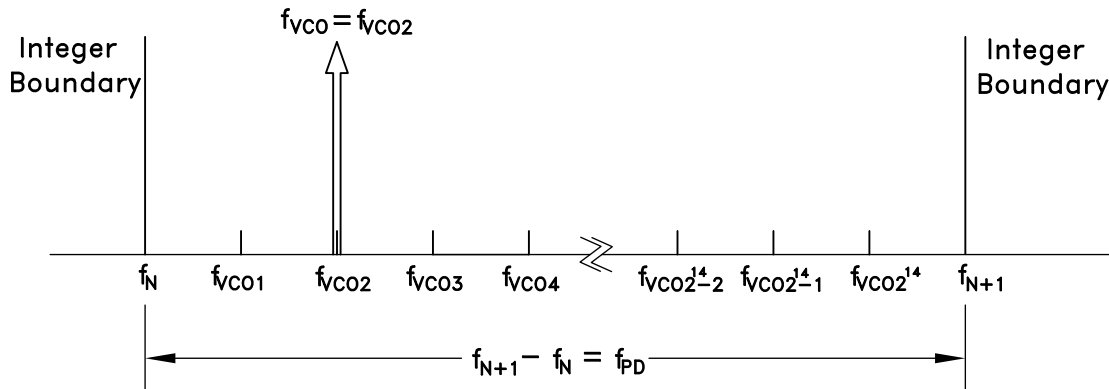

Figure 47. Exact Frequency Tuning
and f_{VCOk} are the channel step frequencies where $0 < k < 2^{24}-1$, As shown in Figure 47.
Some fractional PLLs are able to achieve this by adjusting (shortening) the length of the Phase Accumulator (the denominator or the modulus of the Delta-Sigma modulator) so that the Delta-Sigma modulator phase accumulator repeats at an exact period related to the interval frequency ($f_{VCOk} - f_{VCO(k-1)}$) in Figure 47. Consequently, the shortened accumulator results in more frequent repeating patterns and as a result often leads to spurious emissions at multiples of the repeating pattern period, or at harmonic frequencies of $f_{VCOk} - f_{VCO(k-1)}$. For example, in some applications, these intervals might represent the spacing between radio channels, and the spurious would occur at multiples of the channel spacing.
If it is desirable to have multiple, equally spaced, exact frequency channels that fall within the same interval (ie. $f_N \leq f_{VCOk} < f_{N+1}$) where f_{VCOk} is shown in Figure 47 and $1 \leq k \leq 2^{14}$, it is possible to maintain the same integer-N (Reg 03h) and exact frequency register (Reg 0Ch) settings and only update the fractional register (Reg 04h) setting. The Exact Frequency Channel Mode is possible if (EQ 16) is satisfied for at least two equally spaced adjacent frequency channels, i.e. the channel step size.
To configure the HMC832LP6GE for Exact Frequency Channel Mode, initially and only at the beginning, integer (Reg 03h) and exact frequency (Reg 0Ch) registers need to be programmed for the smallest f_{VCO} frequency (f_{VCO1} in Figure 47), as follows:
1. Calculate and program the integer register setting $\text{Reg 03h} = N_{INT} = \text{floor}(f_{VCO1}/f_{PD})$, where f_{VCO1} is shown in Figure 47 and corresponds to minimum channel VCO frequency. Then the lower integer boundary frequency is given by $f_N = N_{INT} \cdot f_{PD}$.
$$\text{Reg04h} = N_{FRAC} = \text{ceil}\left(\frac{2^{24}(f_{VCOk} - f_N)}{f_{PD}}\right) \quad \text{where } f_N = \text{floor}(f_{VCO1}/f_{PD}), \text{ and } f_{VCO1}, \text{ as shown in Figure 47, represents the smallest channel VCO frequency that is greater than } f_N.$$
4. To change from channel 1 ($f_{VCO1} = 2800.2$ MHz) to channel 2 ($f_{VCO2} = 2800.3$ MHz), only Reg 04h needs to be programmed, as long as all of the desired exact frequencies f_{VCOk} (Figure 47) fall between the same integer-N boundaries ($f_N < f_{VCOk} < f_{N+1}$). In that case